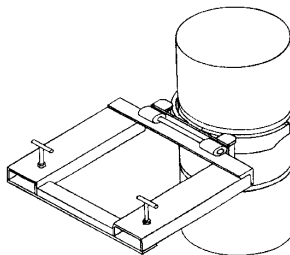

Figure 3
7. When jaws surround drum, raise forks until jaws rest under upper rolling rib. Drum can now be raised and moved where desired. (Figure 3).